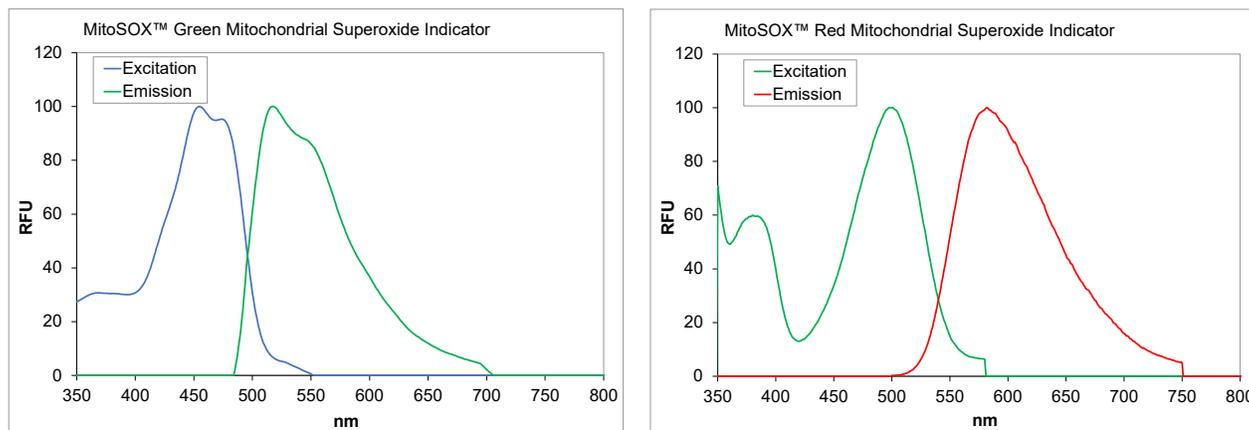

Figure 2 MitoSOX™ Green and MitoSOX™ Red Mitochondrial Superoxide Indicators excitation and emission spectra.
- MSG reagent absorbs and emits optimally at 488 nm and 510 nm, respectively (see Figure 2). Fluorescence is visualized with a standard FITC or GFP filter.
- MSR reagent absorbs and emits optimally at 396 nm and 610 nm, respectively (see Figure 2). Fluorescence is visualized with an appropriate filter set. The spectral peak at 396 is utilized for accurate detection of superoxide.